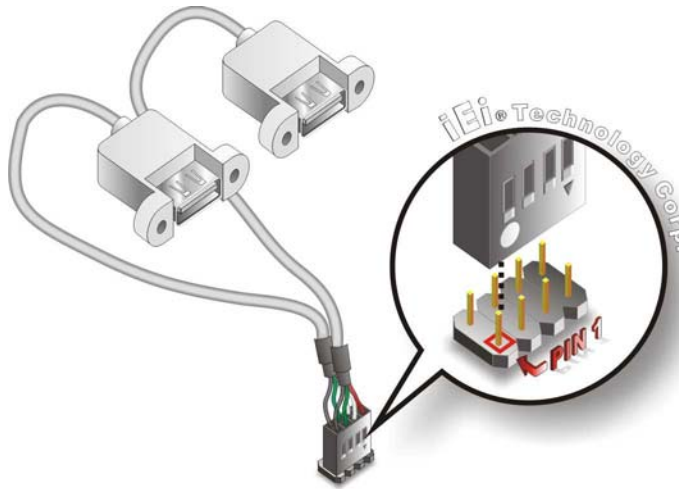

Figure 5-19: Dual USB Cable Connection
Step 3: Insert the cable connectors. Once the cable connectors are properly aligned with the USB connectors on the NANO-945GSE, connect the cable connectors to the on-board connectors. See **Figure 5-19**.